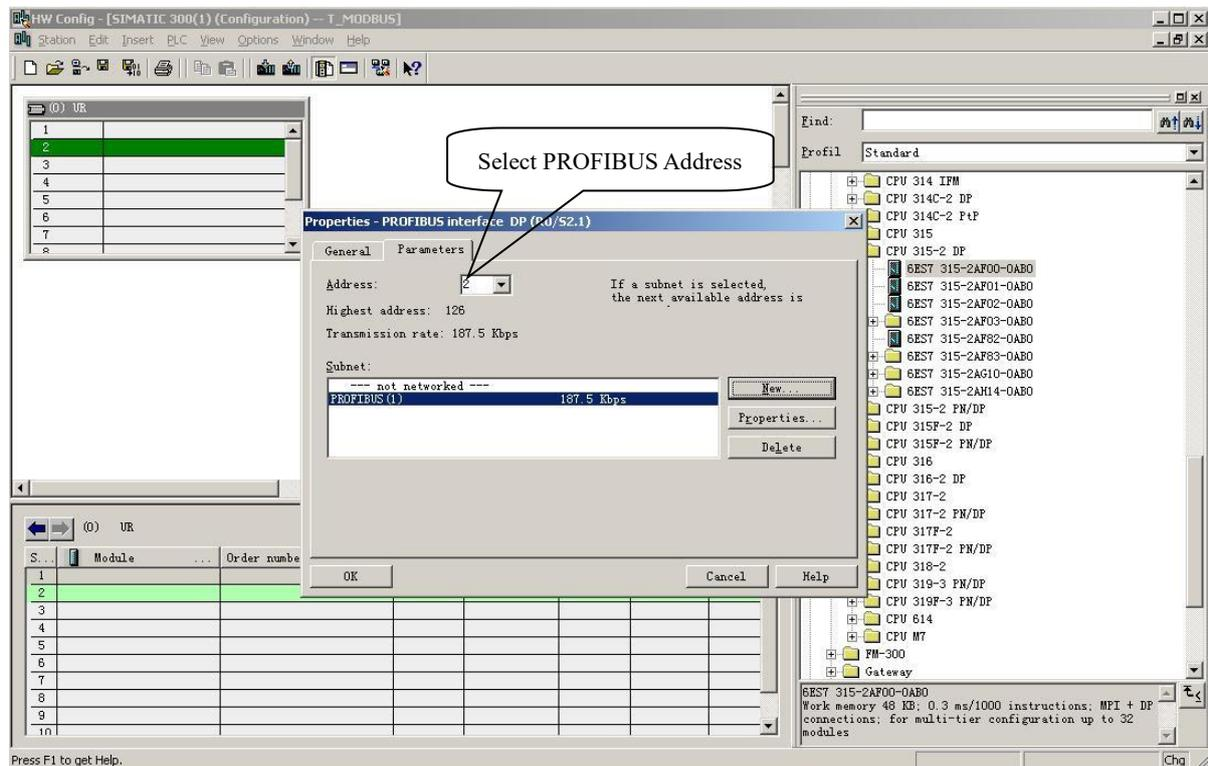

Figure 9
10. Select PROFIBUS DP Master address; As Figure 9 shown: